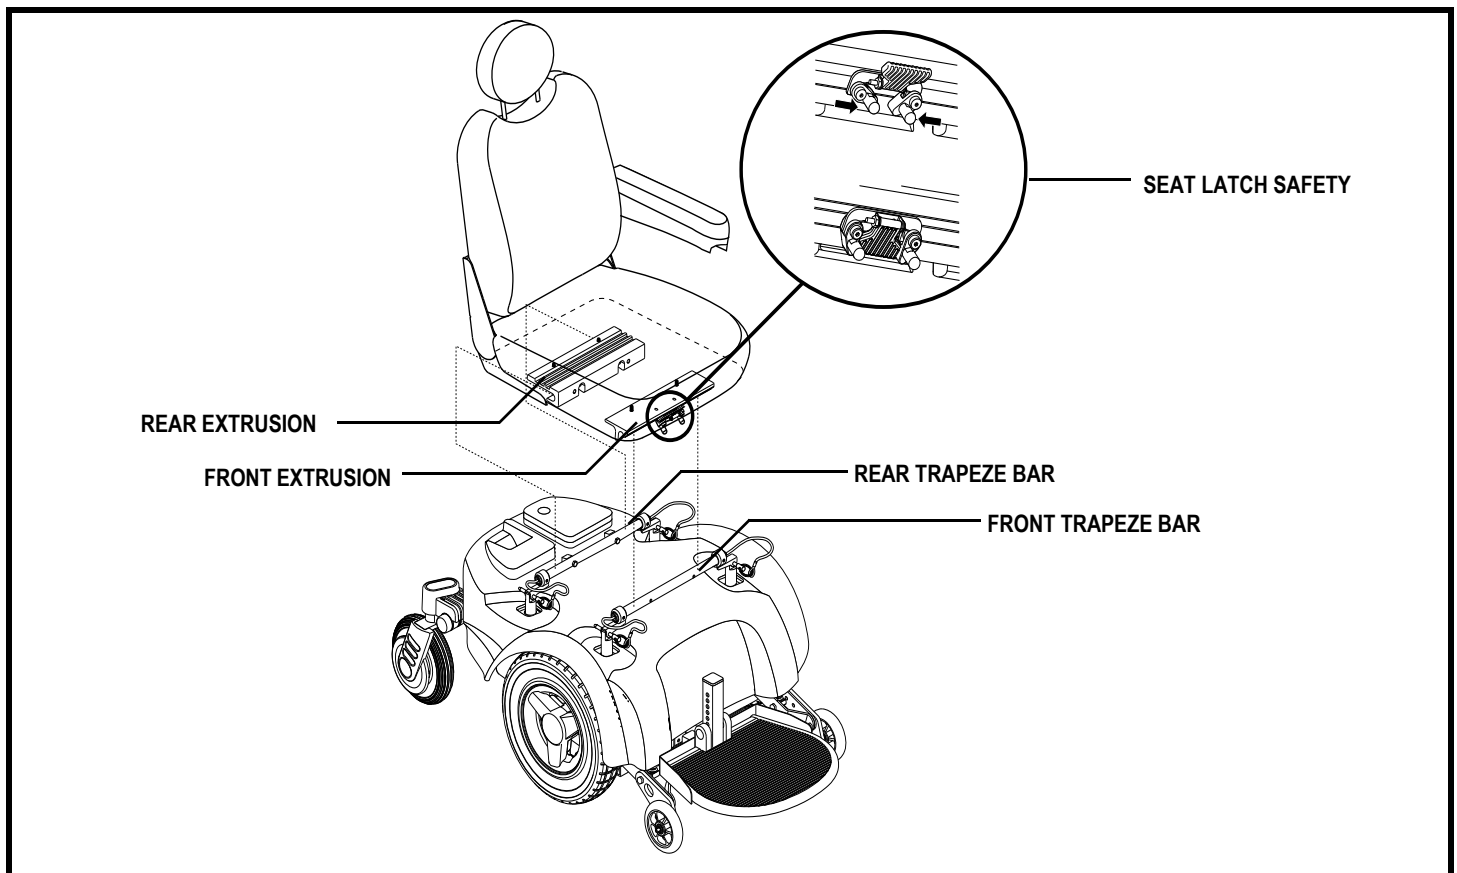

Figure 10. Seat Installation
Your power chair may require some assembly either before initial use or after transportation. It may also require disassembly to make some comfort adjustments. Figure 10 details those parts of the power chair that are designed to be disassembled and assembled by an end user or by a qualified caregiver before using the product or making comfort adjustments.
It may be necessary to install the seat either prior to initial operation or after transporting your power chair. Most seats are attached to the power base with the Universal Mounting System (UMS). The UMS consists of universal parts that may be attached to any medium-back or high-back seat, regardless of seat width or seat depth. The two main components are aluminum extrusions mounted to the seat base. These extrusions attach to a pair of trapeze bars that are mounted to the power base. See figure 10.
2. Tilt the seat back and slide the rear extrusion onto the rear trapeze bar. See figure 10.